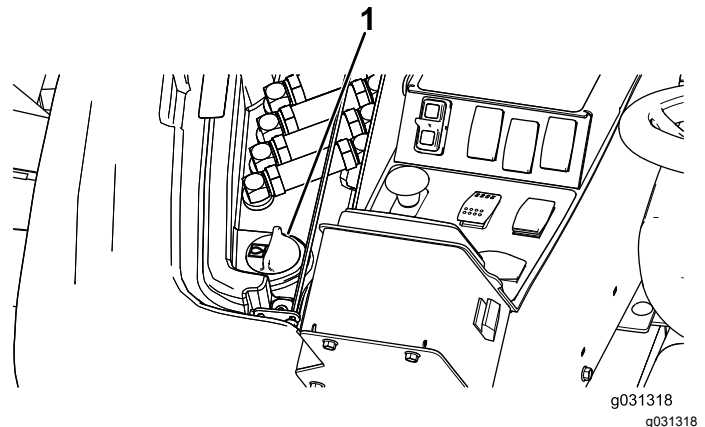

Figure 127
2. On the right side of the machine, raise the access cover to expose the hydraulic-tank cap (Figure 127).
3. Clean the area around the filler neck and cap of the hydraulic tank (Figure 127).